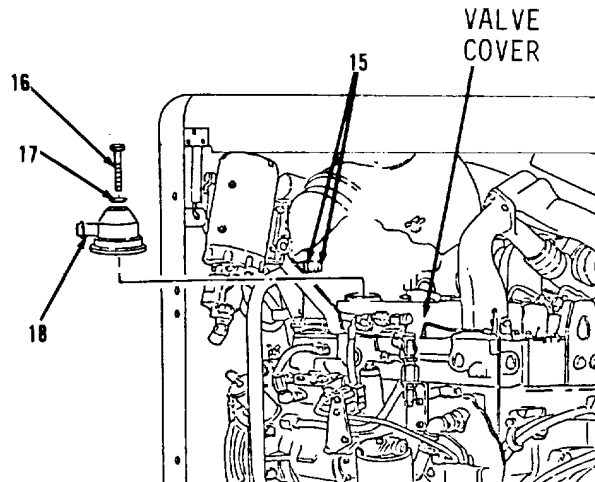
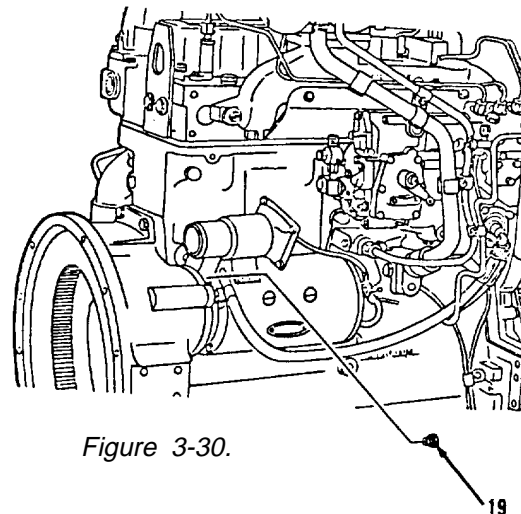

Figure 3-29.
Figure 3-30.
10. Loosen two clamps (15, Figure 3-29).
11. Remove bolt (16), washer (17) and breather (18) from valve cover.
12. Remove plug (19, Figure 3-30) from flywheel housing.